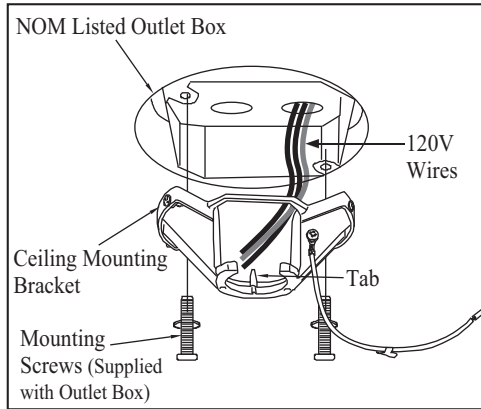

Figure 10
1. Pass the 120-volt supply wires through the center hole in the ceiling mounting bracket as shown in Figure 10.
2. Install the ceiling mounting bracket on the outlet box with the screws and washers provided with your outlet box. (Figure 10) When using “close-to-ceiling” mounting, it is important that the mounting bracket be level. If necessary, use leveling washers (not included) between the mounting bracket and the outlet box. Note that the flat side of the mounting bracket is toward the outlet box. (Figure 10)